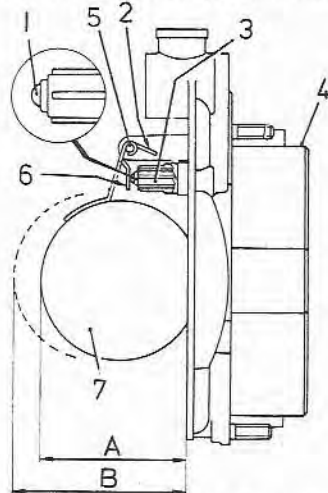

Fig. 13.6 Float level adjustment dimensions (Sec 7)
- 37 Insert the operating rod (4 or 6) into the arm (14) and screw with the split pin (5).
- 38 Insert the rod into the starter device arm (66), then assemble the bush (8) and washer and tighten the retaining screw (7) into the carburettor body.
- 39 Tighten the needle valve seating (11) together with a new gasket (10) into the carburettor cover (1).
- 40 Lower the needle into the needle valve seating (11), tapered end first.
- 41 Lower the float assembly (18) onto the cover (1) and insert the fulcrum pin (9) through the support posts and float arm. If necessary, gently pinch the split post to secure the pin using a pair of pliers.
- 42 The float level adjustment must now be checked in the following manner: Hold the carburettor screw vertical so that the float is hanging from the fulcrum pin with the float level arm in light contact with the needle ball (ie without the ball being depressed). Using a vernier caliper, check that the distance from the cover face (without gasket) to the top of the float as shown in Fig. 13.6 is 1.890 in (48 mm) for 42 DCF models and 1.969 in (50 mm) for other DCF models (photo). If not, bend the needle operating tab as necessary.
- 45 Fit the base (80) to the filter gauze (81). With the carburettor cover (1) inverted, press the filter gauze into the inlet cavity.
- 46 Fit the washer (79) to the filter cover plug (78), then tighten the plug into the cover (1).
- 47 Place the gasket (3) onto the top face of the carburettor body (51).
- 48 Lower the carburettor cover (1) onto the main body (51), then insert the retaining screws (86) and washers (85) and